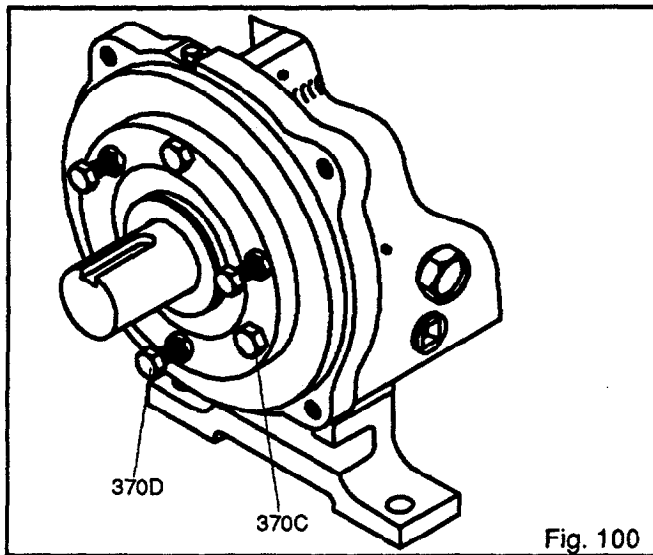

Fig. 100
5. Loosen clamp bolts (370C), and jacking bolts (370D) (Fig. 124). Measure gap between impeller (101) and seal chamber/stuffing box cover (184). When 0.030 in. (.76 mm) clearance (9/16" for 4" pump) is reached, tighten clamp bolts (370C), jacking bolts (370D), and locking nuts (423) (Fig. 100).